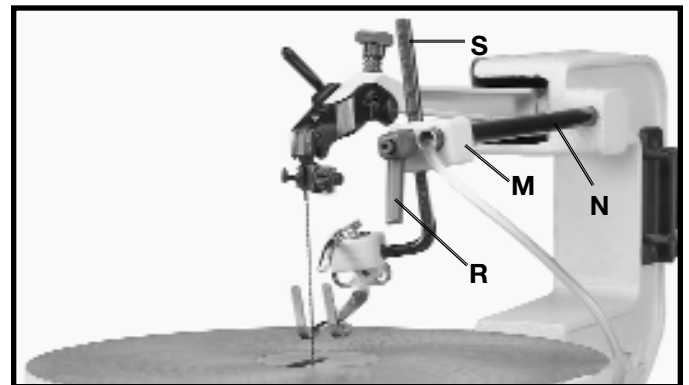

Fig. 13
11. Rotate bracket (M) Fig. 13, back to its original position as shown, and tighten the two screws that were loosened in **STEP 9**. Then tighten lockhandle (R) to hold rod (S) in position.